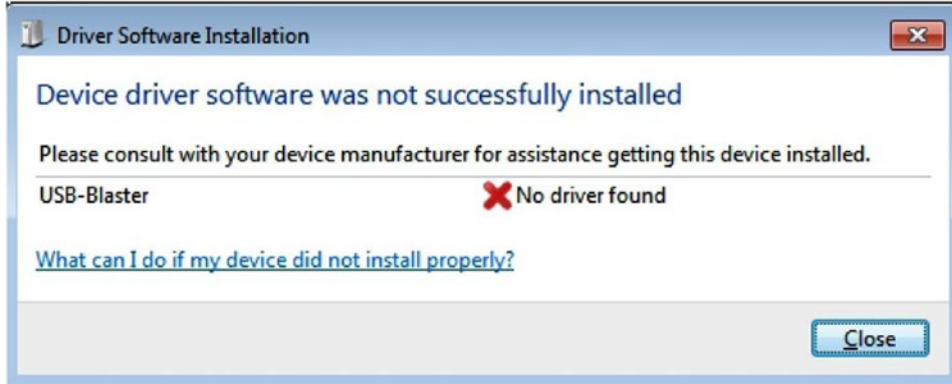

Figure 4-51. Device driver software was not successfully installed
3. The Windows driver installation will NOT find a driver. Click **Close** (Figure 4-51).